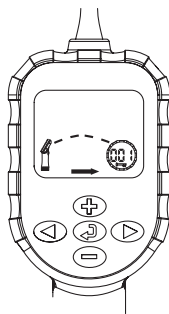

Figure 1
2. Use the **+** and **=** buttons to change the 3-digit identification number. Use the **▶** button to make sure that the WVP is in the transmit mode with the arrow on the display pointing towards the address icon **000** (see figure 1).